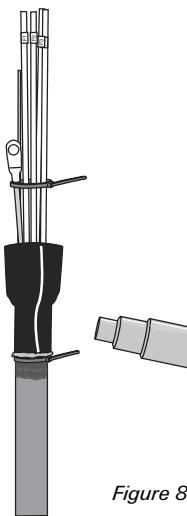

Figure 8
17. Begin shrinking the tube with the CV1981 hot-air gun on setting 6. Start at the bottom of the tube, directing the air flow upward. (Figure 8) At the top of the tube, direct the air flow downward to avoid applying heat directly to the transportation tubes.